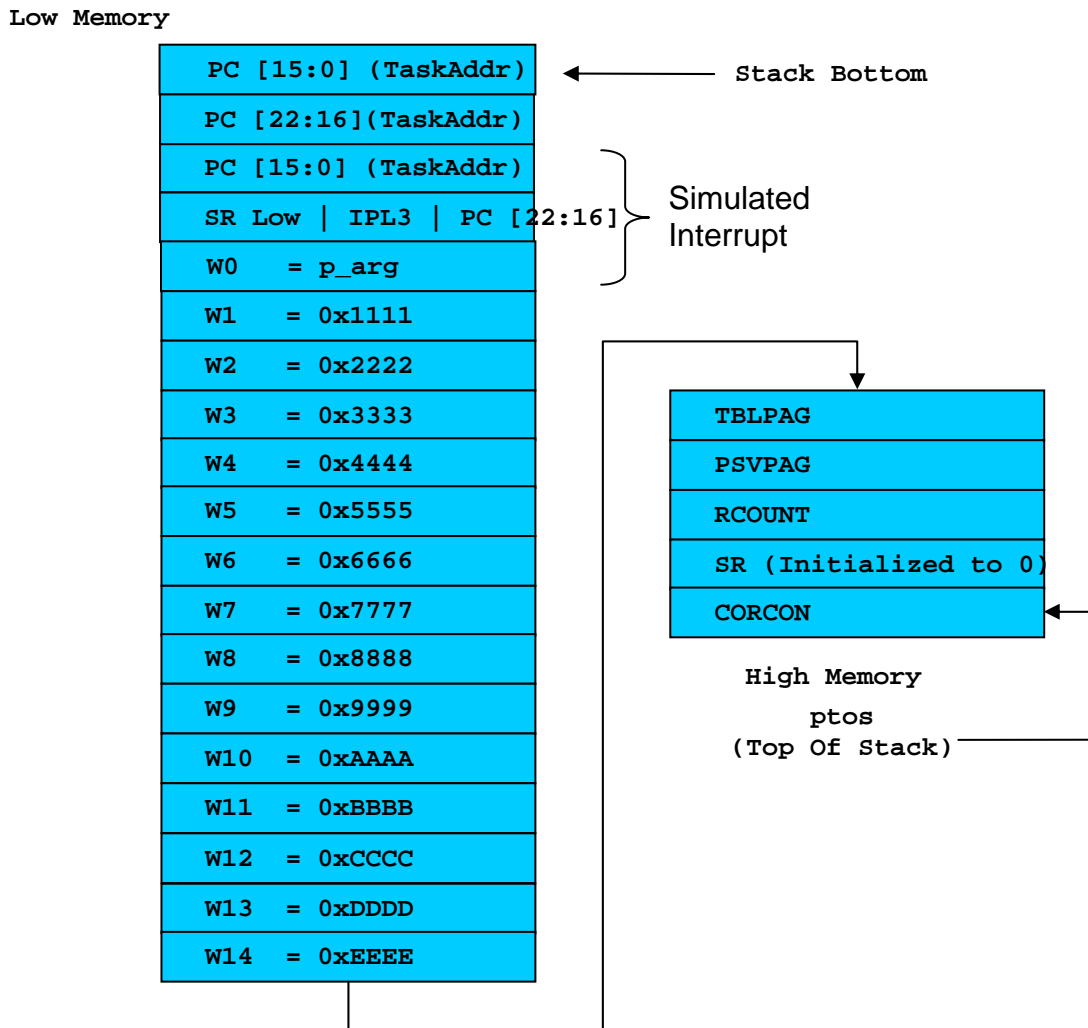

Figure 3-1, The Initial Stack Frame for each Task.
Figure 3-1 shows how the stack frame is initialized for each task when it's created.
- L3-18(1) Before starting the highest priority task, we call OSTaskSwHook() in case a hook function has been declared (see OS_CPU_C.C).
- L3-18(2) The μC/OS-II flag OSRunning is set to TRUE indicating that μC/OS-II will be running once the first task is started.
- L3-18(3) We then get the pointer to the task's top-of-stack (was stored by OSTaskCreate() or OSTaskCreateExt()). See figure 3-1 (ptos is stored in the OS_TCB of the created task).
- L3-18(4) We then pop all the registers from the task's stack. This is done by calling an assembly language macro which is declared in OS_CPU_UTIL_A.S and will be described later.
- L3-18(5) By executing a return from interrupt instruction, the PIC24 pops the PC and the STATUS register from the stack and thus, the PIC24 will start executing the task's code.